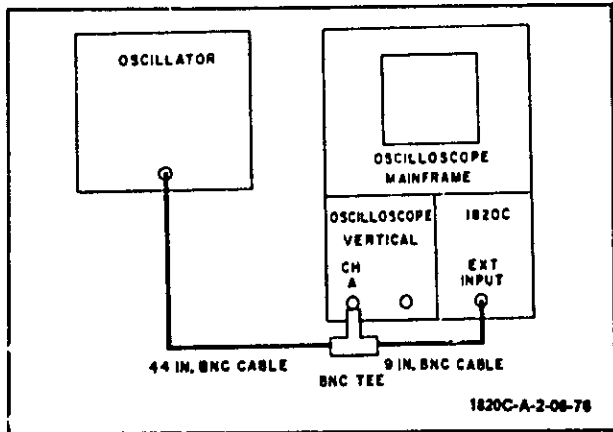

Figure 5-2. Trigger Range Test Setup
5-32. EQUIPMENT. See figure 5-2 for equipment required.
- a. Connect equipment as shown in figure 5-2.
Before proceeding to next step, ensure that maximum permissible input to vertical plug-in is at least 40V. If not, install attenuator between BNC tee and vertical input (figure 5-2).